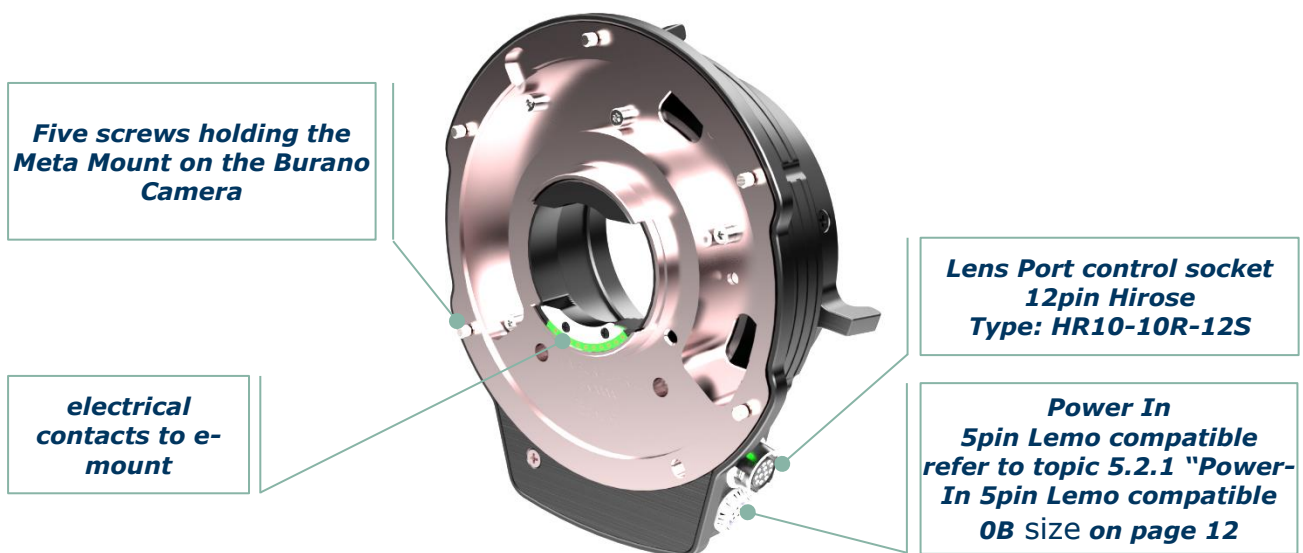

Figure 1
4. Install the Burano Meta Mount onto the camera using the five screws shown on Figure 1.
2. Open the nine screws (Allen-key 2mm) holding the Burano Mount flange to the rest of the adaptors body (refer to Figure 1 above).